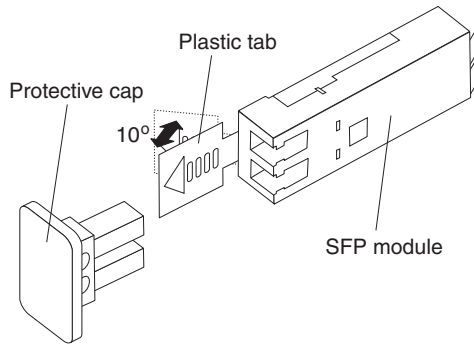

Figure 55. Unlocking the SFP module latch - plastic variety
- For SFP modules that contain plastic tabs, unlock the SFP module latch by pulling the plastic tab outward 10°, as shown in Figure 55 on page 72.